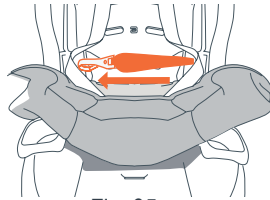

Fig. 35a
4. Route lower anchors through forward facing belt path (Fig. 35a).